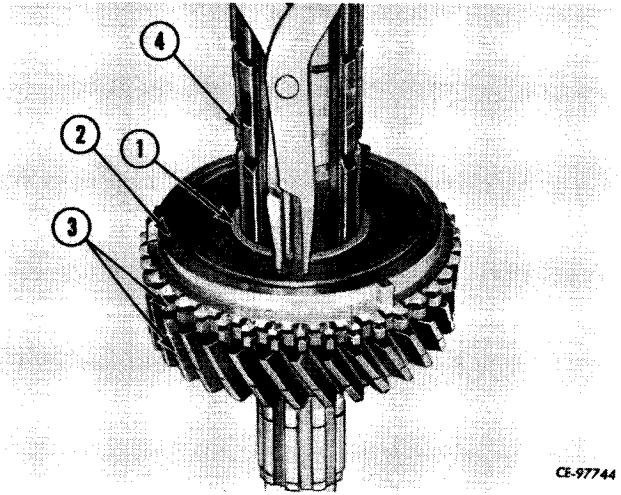

Figure 4-47
Install 2nd gear (3, Fig. 4-47) and blocking ring (2) on main shaft (4) and install snap ring (1).